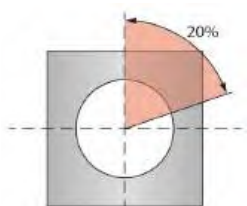

Figure 1
- **Worked Surface Properties:** Workpieces with an interrupted surface within 10% of the circumference can be successfully burnished with a standard tool (see Figures 1 and 2).